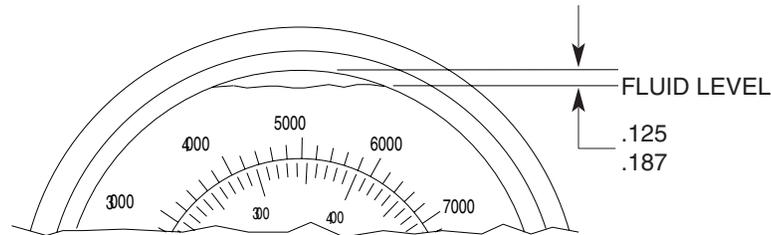

Figure 1
3. Fill the gauge to 3/16" to 1/8" from the top of the gauge window. See Figure 1.